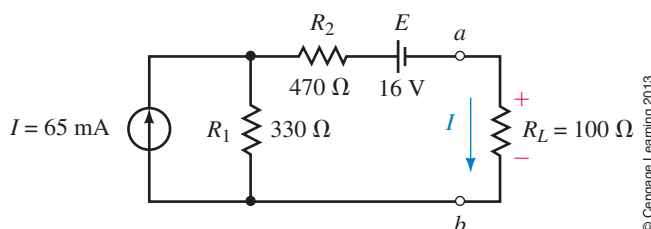

FIGURE 8–74
14. Refer to the circuit of Figure 8–75: